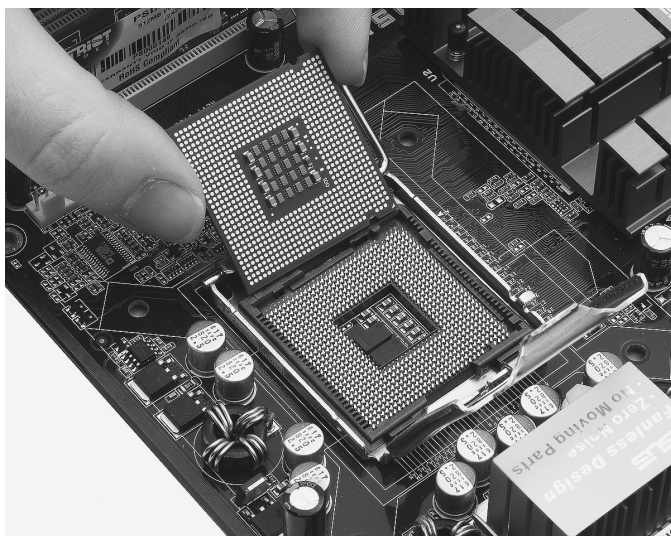

FIGURE 5.9 CPU orientation marks
2. Locate the orientation mark on the corner of the CPU and socket. They are usually marked with an arrow or raised dot. Double-check the orientation by looking at the pin configuration—the CPU and socket should be oriented so that the corner (or corners) with missing pins align (Figure 5.9).